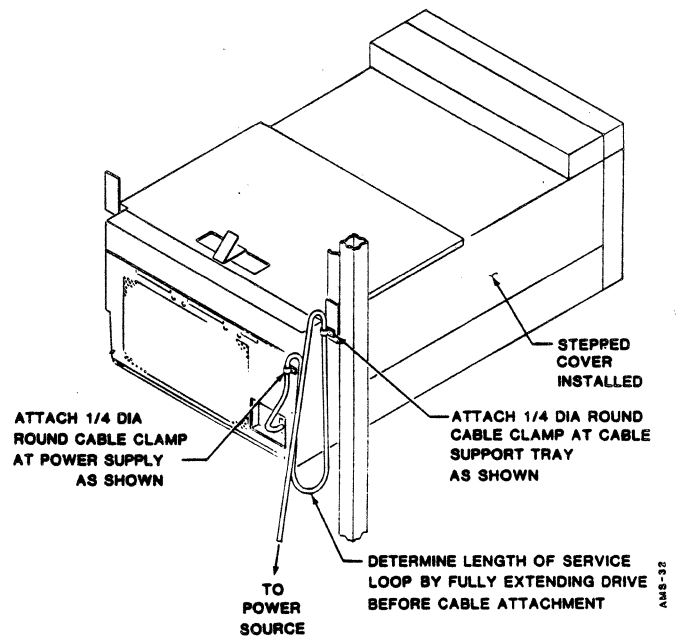

Figure 7-23. AC Power Cord Installation Diagram
7. Attach the disk drive AC cord to the disk drive at the top right corner of the power supply as shown in Figure 7-23. Use the existing screw to attach the cable clamp. Attach the other end of the AC cord to the cable support tray mounting screw. Allow enough service loop to fully extend the disk drive on its slides. Check that socket outlets are located near the cabinet and are easily accessible.
8. Install "plated" stepped cover to top of disk drive (see Figure 7-23).